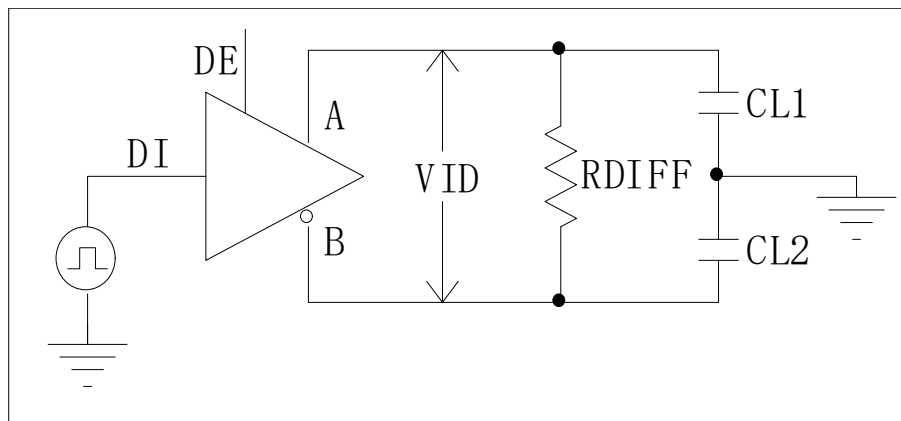

Figure 2 Driver Timing Test Circuit
- (2) Test circuit is shown in Figure 2